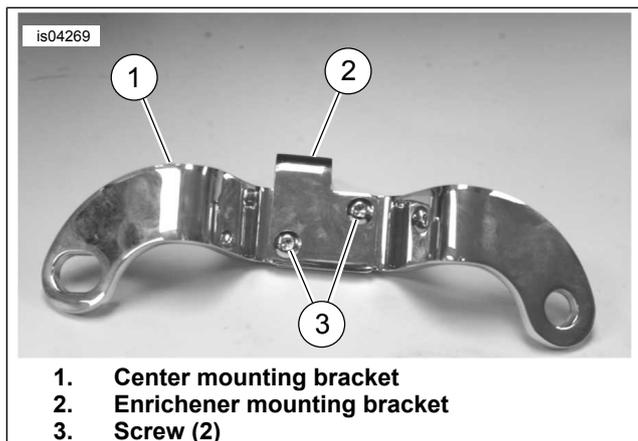

Figure 4. Assemble Enricher Mounting Brackets (Kit Number 16358-04) (All Models Except 1200C)
5. **All Models Except XL1200C:** See Figure 4. Obtain the center mounting bracket (1), enricher mounting bracket (2) and two small screws (3) from kit. Orient the brackets as shown and install screws. Tighten screws securely.